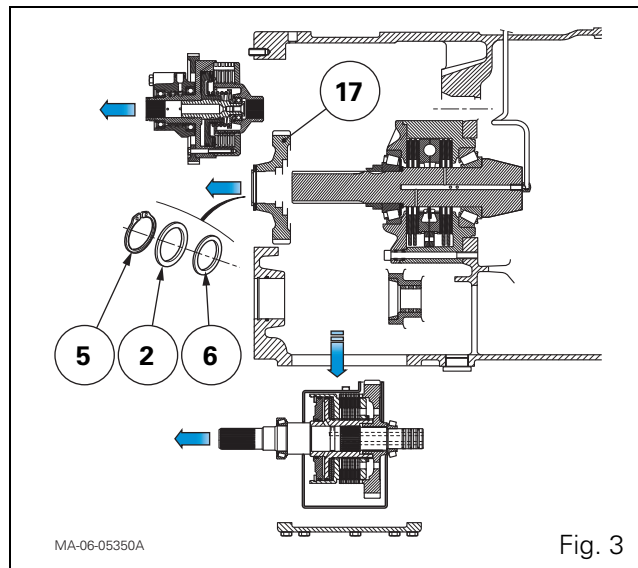

Fig. 3
3. Remove (Fig. 3):
- the circlip (5);
- the thrust washer (2);
- the shim(s) (6).
Remove the 4WD driving gear (17) (Fig. 3).